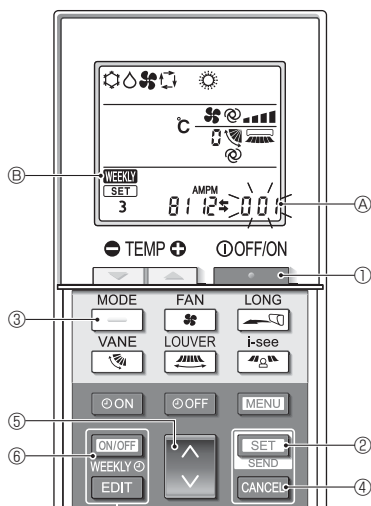

Fig. 4-12
- Press the **MENU** button ②.
4.12.8. How to disable Auto mode operation (Fig. 4-12)
1. Press the **STOP** button ① to stop the air conditioner.
2. Press the **SET** button ② for 5 seconds.
- The unit enters the function setting mode. (The group model setting number ④ blinks.)
3. Press the **UP** button ④.
4. Completing the settings (Fig. 4-12)
- Press the **SET** button ② for 5 seconds.